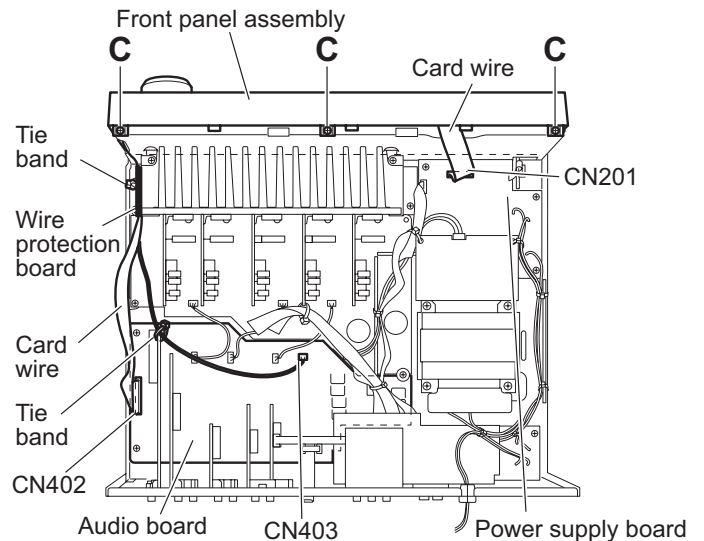

Fig.2
3.2 Removing the front panel assembly (See Figs.2 and 3)
- (1) Disconnect the card wire from the connector CN402 on the audio board. (See Fig.2)
- (2) Disconnect the card wire from the connector CN201 on the power supply board. (See Fig.2)
- (3) Remove the tie bands. (See Fig.2)
- (4) Remove the wire protection board fixing the card wire. (See Fig.2)
- (5) Disconnect the wire from the connector CN403 on audio board. (See Fig.2)
- (6) Remove the three screws **C** attaching the front panel assembly. (See Fig.2)